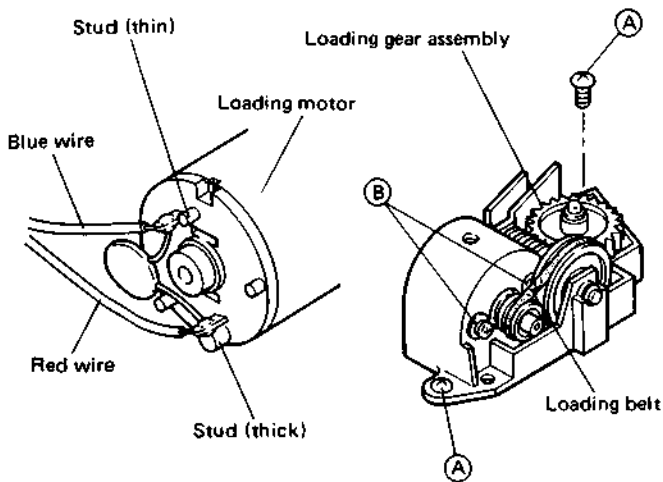

Fig. 4-14 Loading motor replacement
1. Take out two screws (A) and remove the loading gear assembly.
2. Unsolder the motor wires as shown in Fig. 4-14.
3. Disengage the loading belt from the motor pulley; take out two screws (B) and replace the loading motor.